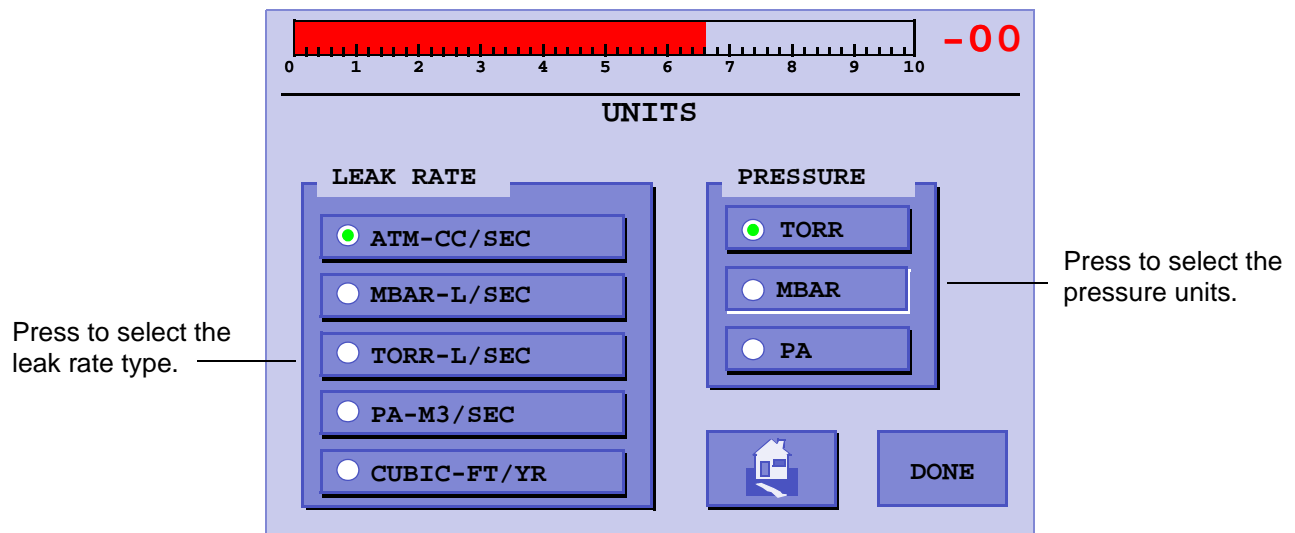

Figure 3-11 Units
- Press **Units** on the Set-Up screen and the Units screen appears (Figure 3-11).